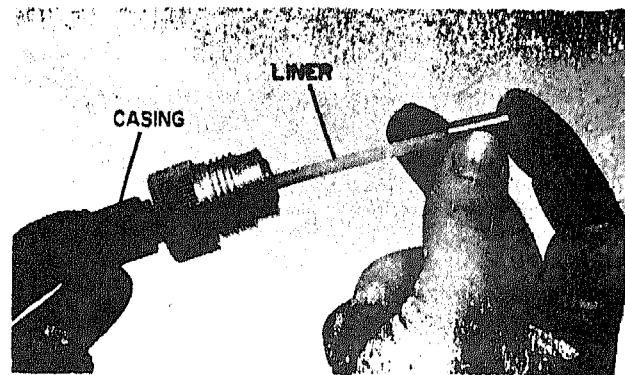

Figure 12. Installing Casting Liner
- Insert liner (Fig. 12) into casing assembly when aluminum wire is to be used.